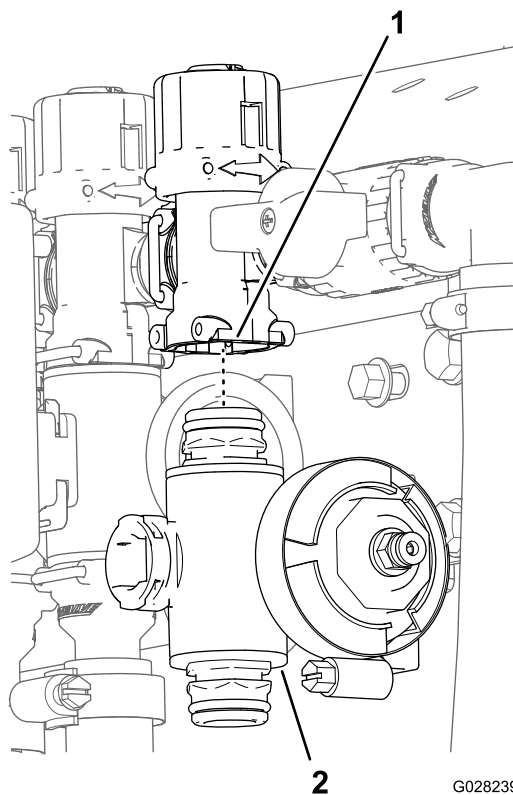

Figure 121
3. For the left or right boom section valves, remove the flanged-head bolts and flanged locknuts that secure the section valve(s) to the valve mount and remove the valve manifold(s) from the machine; for the center section valve, remove the section valve manifold from the machine (Figure 121).